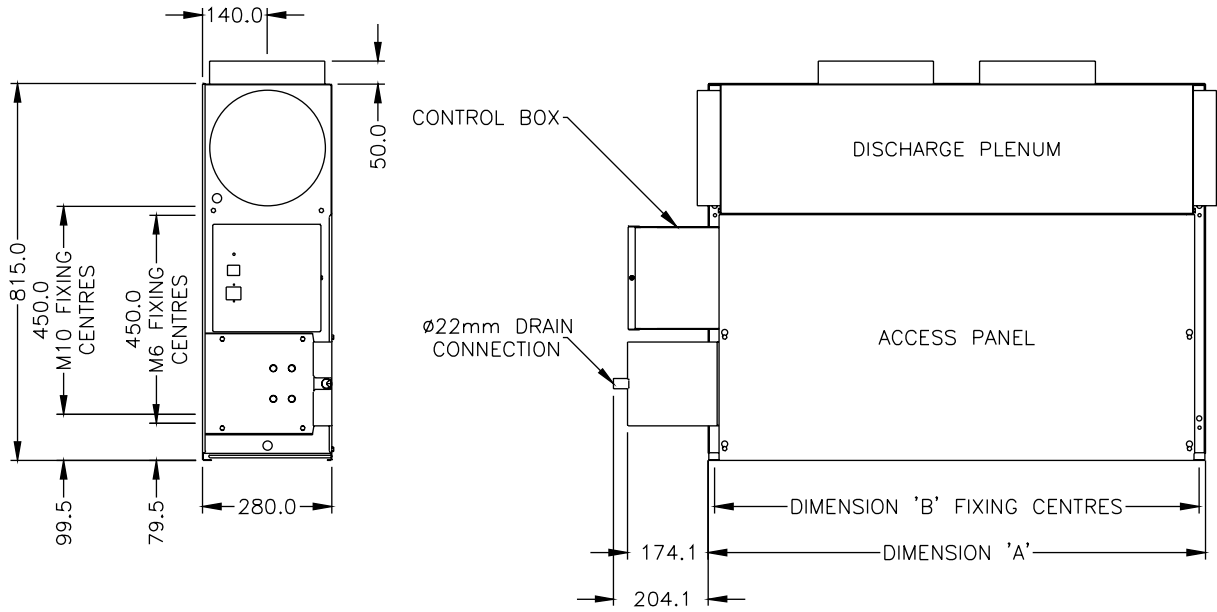

Figure 1: Standard range models.
The Dunham-Bush Lynx fan coil unit range consists of 7 models. Refer to Figure 1, Page 4.
- 1) Prepare drop rods to accept the fan coil unit. Either M6 or M10 drop rods, complete with appropriate washers, are suitable. Refer to Figure 1, Page 4 for fixing positions.